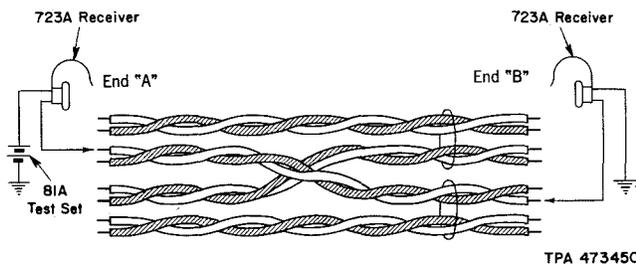

Fig. 9—Test For Split Quads
4.09 When all quads in the group are tested, pick out the defective quads at end (B). Check test each wire with battery and receiver as shown in Fig. 9 and tag the split quads.